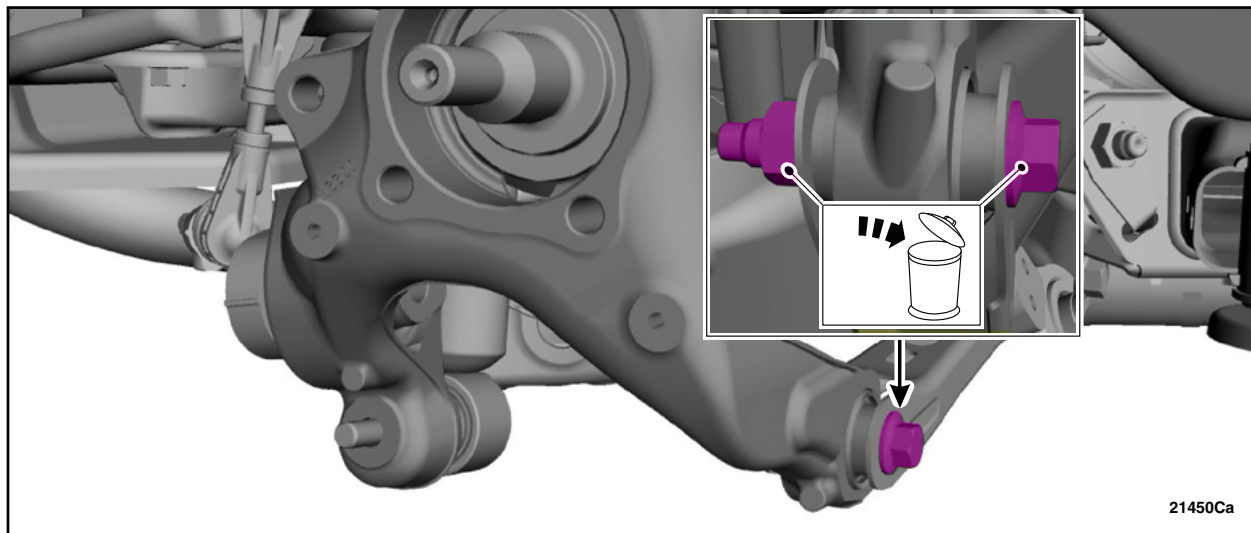

FIGURE 6
10. Remove and discard the toe link-to-wheel knuckle bolt and nut. See Figure 6.